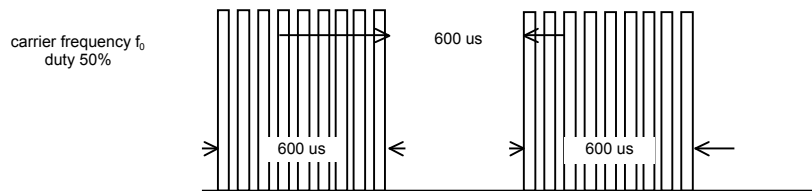

Figure 1. Burst Wave
- Standard Transmitter: Burst wave indicated in Figure 1 shall be arranged to  $50 \text{ mV}_{p-p}$  using measurement circuit in Figure 2.